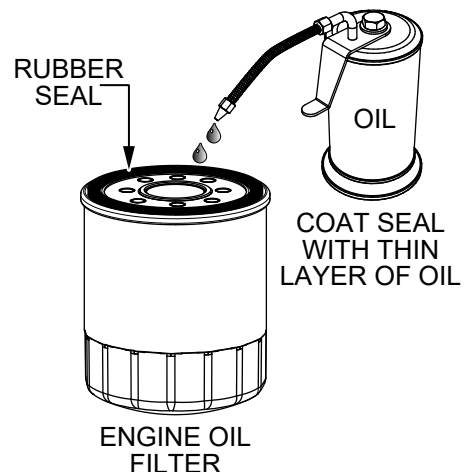

Figure 62. Engine Oil Filter
- Coat the seal of the new oil filter (Figure 62) with clean engine oil. Install the new filter by hand until it contacts the engine sealing surface, then tighten it another 1/2 turn. **DO NOT** use a strap wrench or similar tool to tighten the filter.